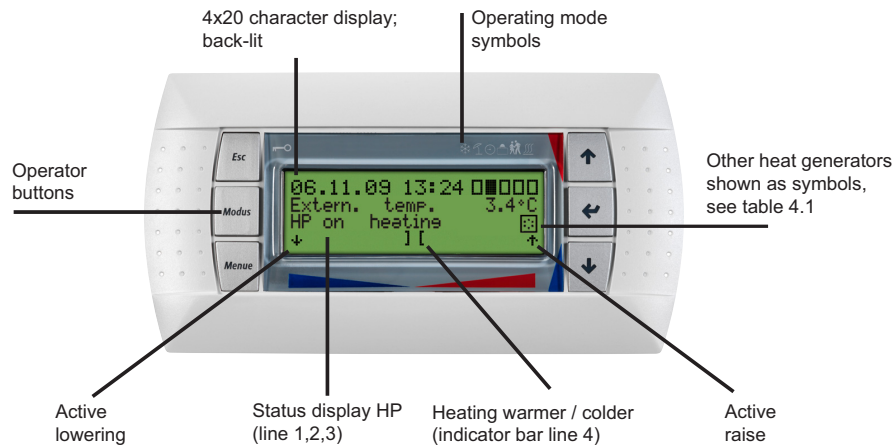

Fig. 7.1: Heat pump manager WPM 2007 or WPM Econ Plus with dropped standard LC display with operator buttons
- The operating status of the heat pump and the heating system is indicated in plain text on a 4 x 20 character LC display (see Fig. 7.1 on page 75).